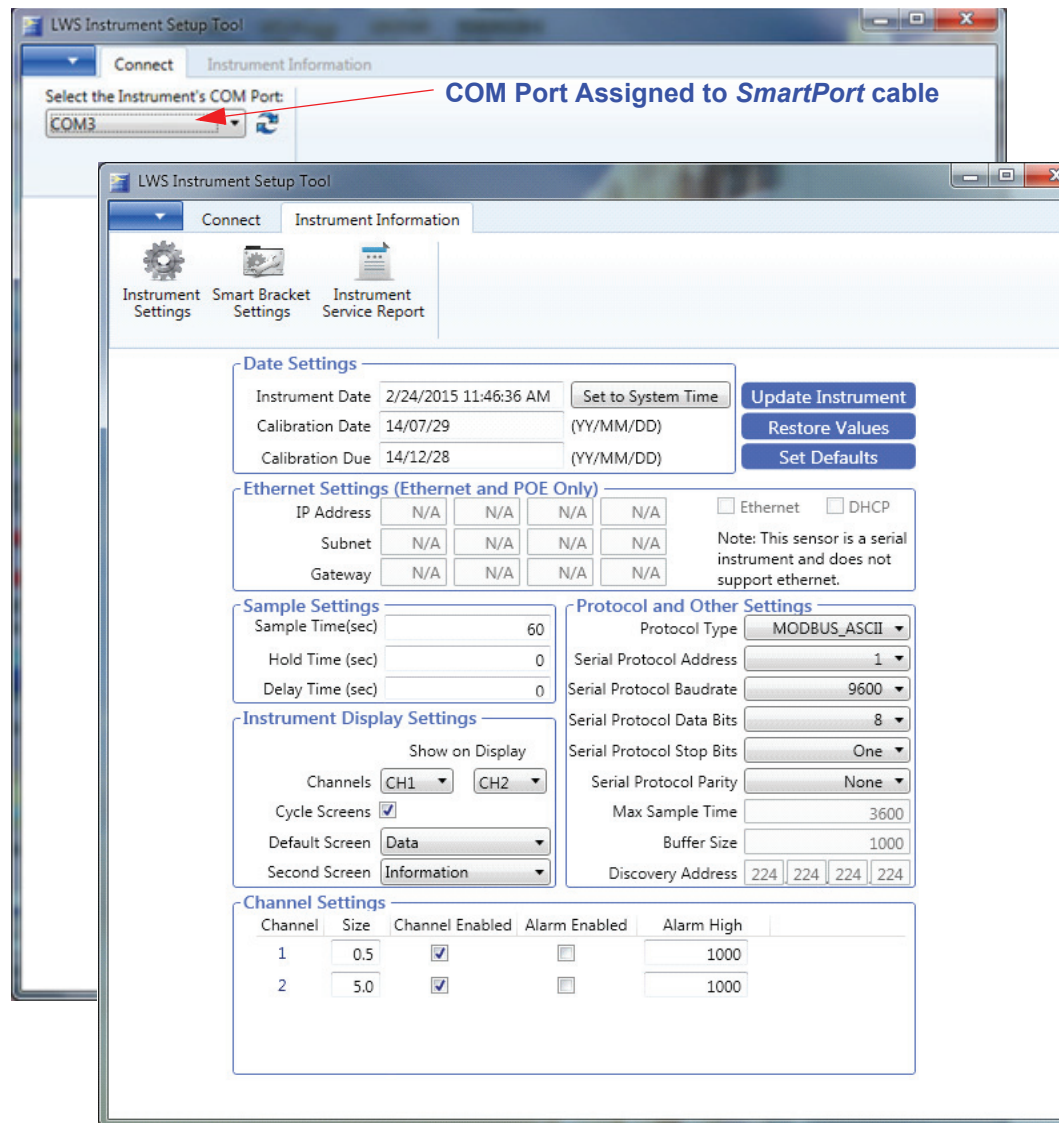

Figure 3-6 Instrument Setup Tool Screen
14. When it starts, the program will require the COM port number that the *SmartPort* cable is using. Choose the correct COM port number from the dropdown as shown in Figure 3-6.